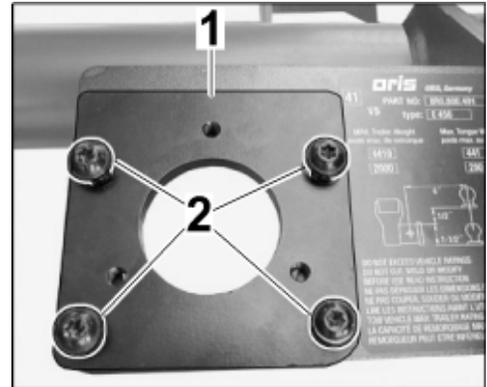

Figure 14
3.1.1 Install metal plate adapter with four screws M5 x 16 on towbar system (⇒ Figure 14).